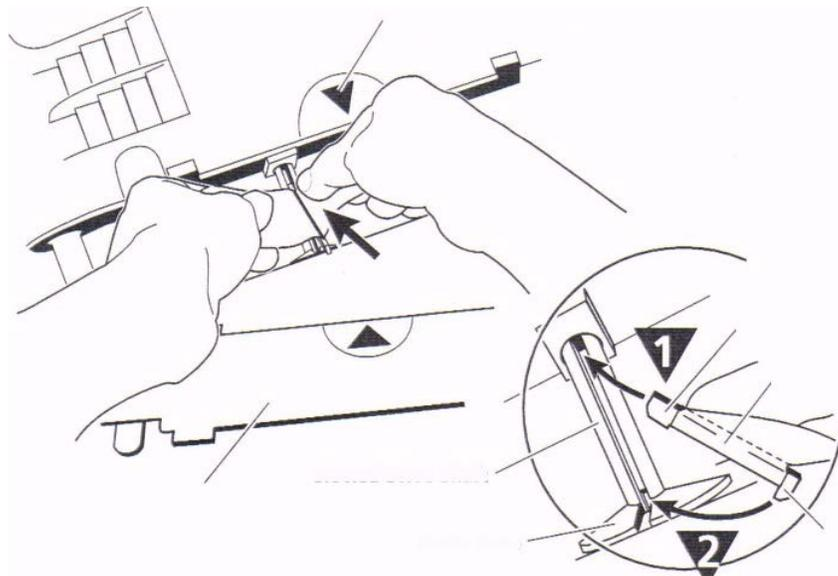

Figure 2-1 Sliding the LifeBand® Band Clip into the Drive Shaft Slot
2. Insert the head end of the LifeBand® band clip into the drive shaft slot. The correct direction is towards the LifeBand® plate alignment arrow seen on the Platform (see Figure 2-1).